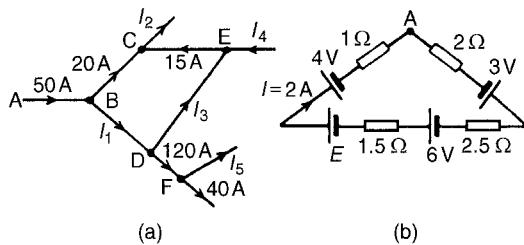

Figure 13.3
Problem 1. (a) Find the unknown currents marked in Fig. 13.3(a) (b) Determine the value of e.m.f. E in Fig. 13.3(b).
(i.e. in the opposite direction to that shown in Fig. 13.3(a))
- (b) Applying Kirchhoff's voltage law and moving clockwise around the loop of Fig. 13.3(b) starting at point A: